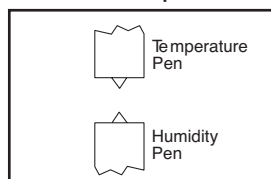

Figure 2-10. Vertical Alignment of Pens (Pens Can't Be Inserted)
- b. If the pen arms are vertically aligned as shown in Figure 2-10, do the following and then proceed to Step 3.